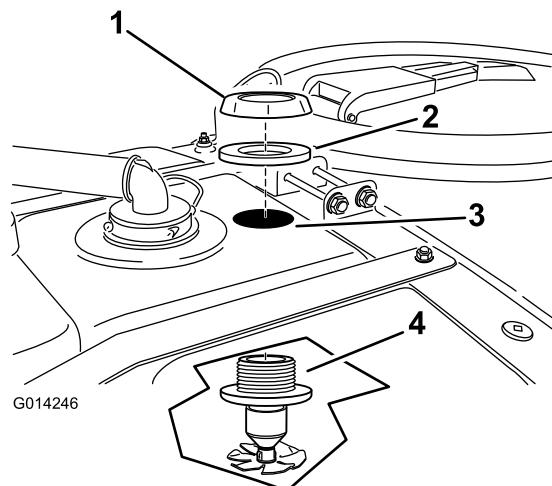

Figure 15
2. Install a nozzle assembly up through the drilled hole (Figure 15).
3. Install the plastic nut and gasket over the exposed threads of the bulkhead on top the tank (Figure 15).